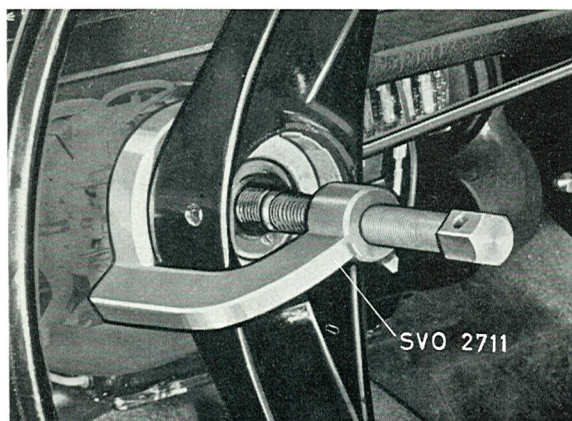

Fig. 6-37. Removing the steering wheel
3. Point the wheels straight forwards. Fit the steering wheel puller tool SVO 2711, see Fig. 6-37, and remove the steering wheel.